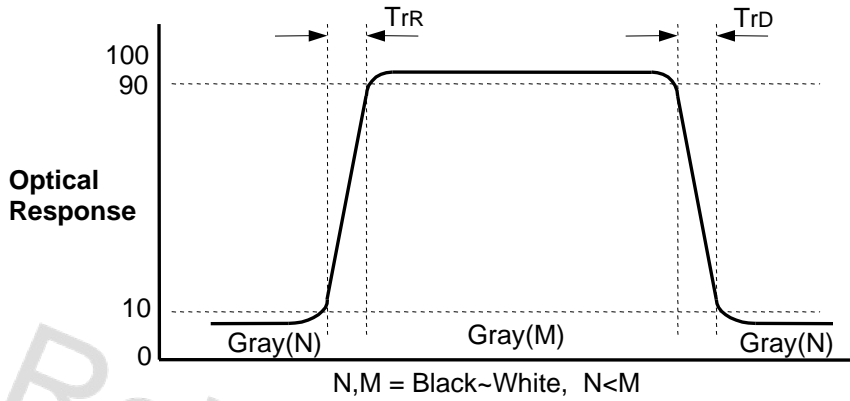

FIG. 4 Response Time
5. Viewing angle is the angle at which the contrast ratio is greater than 10. The angles are determined for the horizontal or x axis and the vertical or y axis with respect to the z axis which is normal to the LCD module surface. For more information, see the FIG. 4.